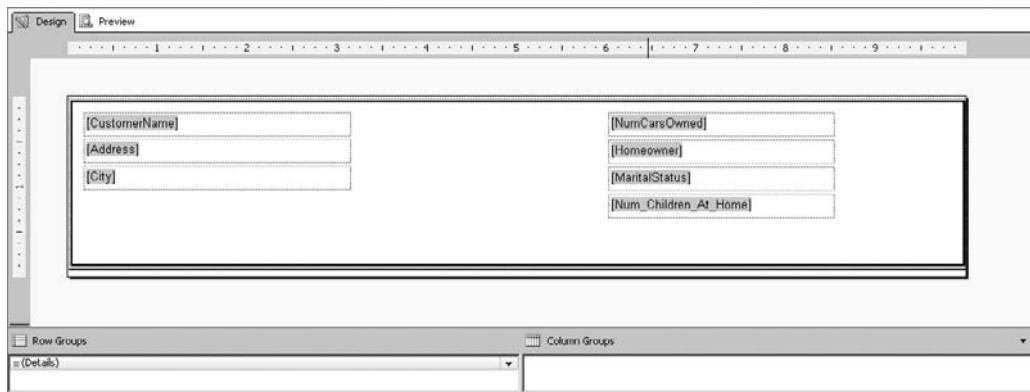

Figure 16-36 The initial field layout for the Customer List With Prediction Report
34. Drag fields from the MailingListPrediction dataset in the Report Data window onto the rectangle to create the layout shown in Figure 16-36. The text boxes have been expanded to show the entire field placeholders in each text box.